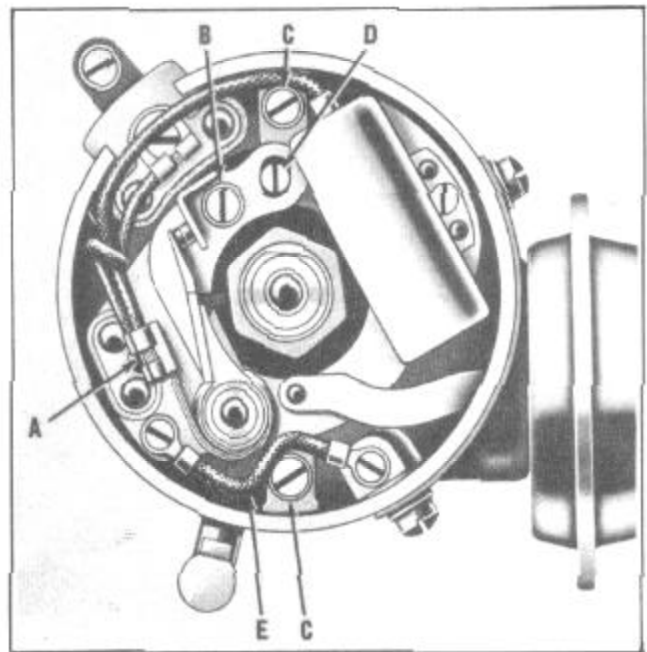

FIGURE 11
**NOTE:** Contact point adjustment is made by first loosening the clamp screw (B) Figures 11 and 12, holding the stationary contact plate, then turn the eccentric adjusting screw (D) to move the stationary contact point. Tighten clamp screw when correct gap is secured.